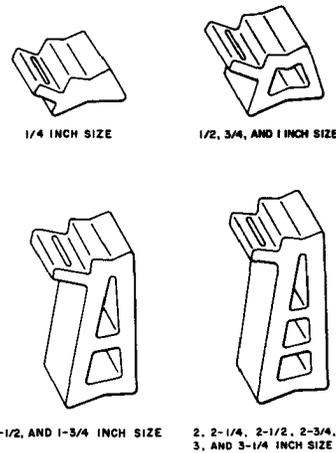

Fig. 1—D Cable Spacers
2.01 The D cable spacer is made of black polyethylene and is used with lashed cable supports to maintain the desired separation between strand and cable. The D cable spacers are available in 1/4-inch increments from 1/4 through 3-1/4 inch sizes (Fig. 1).